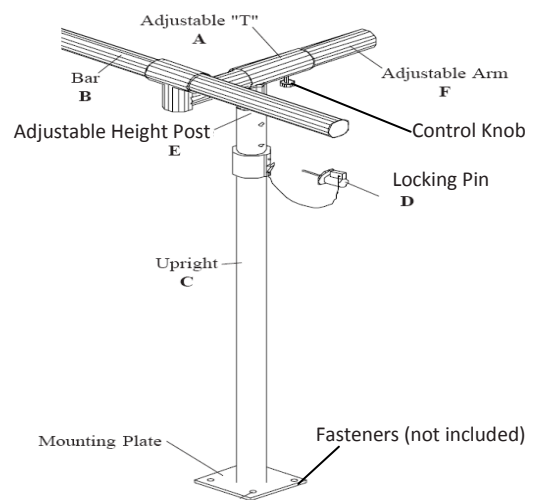

Figure 4: Width & Height Adjustment
1. Remove the locking pins 'D' from one side lift one side to the desired height, and lock with pin as shown in Figure 4.